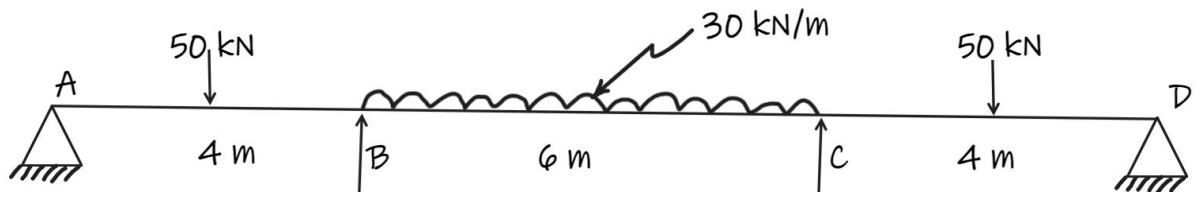

Fig.1 Q.1 (c)
- (c) Give static indeterminacy and kinetic indeterminacy for continuous beam shown in Fig.1. Calculate fixed end moments, stiffness factors and distribution factors of beam. **07**